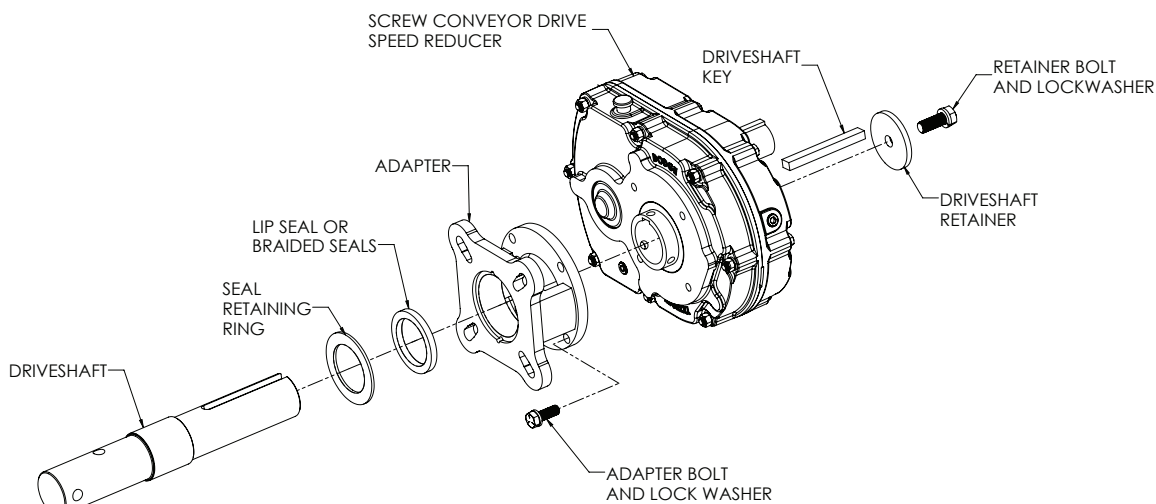
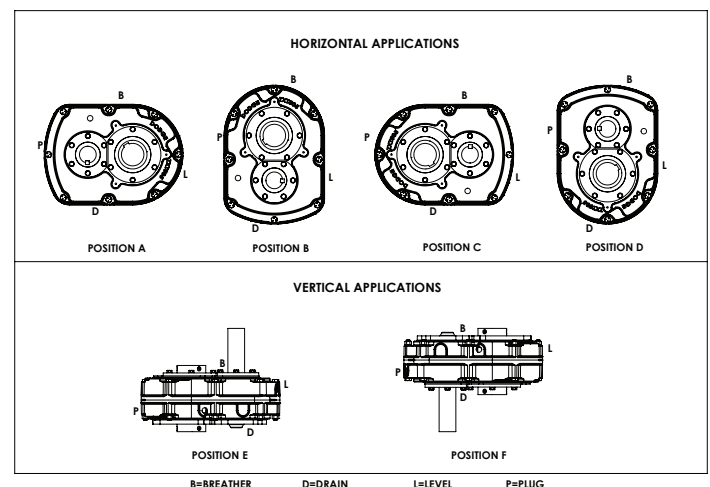

Figure 1 - SCXT Assembly
Figure 3 - Mounting Positions
2. Determine the running positions of the reducer (see Figure 3). Note that the reducer is supplied with six plugs; four around the sides for horizontal installations and one on each face for vertical installations. These plugs must be arranged relative to the running positions as follows:
Vertical Installations – Install the filter/ventilation plug in the hole provided in the upper face of the reducer housing as installed. If space is restricted on the upper face, install the vent in the highest hole on the side of the reducer per Figure 3 using the optional vertical vent kit. Install a plug in the hole in the bottom face of the reducer. Do not use this hole for the magnetic drain plug. Install the magnetic drain plug in the lowest hole on the sides of the reducer. Of the remaining holes on the sides of the reducer, use the plug in the upper housing half for the minimum oil level plug.
Below 15 RPM output speed, oil level must be adjusted to reach the highest oil level plug. If reducer position is to vary from those shown in Figure 3, either more or less oil may be required. Consult Dodge.
The running position of the reducer in a horizontal application is not limited to the four positions shown in Figure 3. However, if running position is over 20° in position B and D or over 5° in position A and C—either way from sketches—the oil level plug cannot be used safely to check the oil level, unless the reducer is swung to within 20° for position A and C or within 5° for position B and D of the positions shown in Figure 3. Because of the many possible positions of the reducer, it may be necessary or desirable to make special adaptations using the lubrication filling holes furnished along with other standard pipe fittings, stand pipes and oil level gauges as required.
3. Use lifting tab to hoist screw conveyor drive into position. Slide shaft into screw and adapter over trough end studs. Only one set of adapter holes will fit over the trough end studs. If the mounted position of the screw conveyor drive varies more than 15° from any of the four horizontal mounting positions shown in Figure 3, an incorrect set of holes has been selected for coupling adapter to reducer. This can be corrected by removing adapter screws and rotating the reducer to its proper position. Reinstall and tighten adapter screws to torque specified in Table 5. Install lockwashers and tighten nuts on trough end studs. Attach drive shaft to screw.
① Oil quantity is approximate. Service with lubricant until oil runs out of oil level hole.
② Refer to Figure 3 for mounting positions.
③ US measure: 1 quart = 32 fluid ounces = .94646 liters.
④ Below 15 RPM output speed, oil level must be adjusted to reach the highest oil level plug. If reducer position is to vary from those shown in Figure 1, either more or less oil may be required. Consult Dodge.